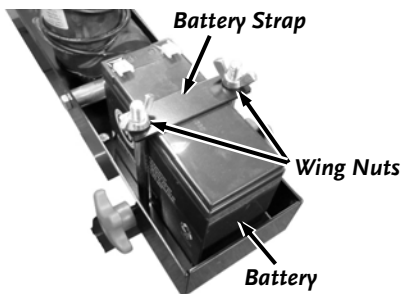

Figure 19
29. Remove the Wing Nuts and lift the Battery Strap and Battery out of the Actuator Assembly (**Figure 19**).